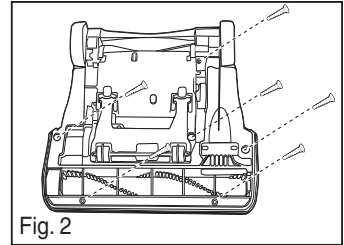

Fig. 2
- 4) Remove 6 screws from the backside of cover (Fig. 2). One screw is located under the wheel carriage.
- 3) Push in new bulb, replace lens cover and replace screw (Fig. 2).